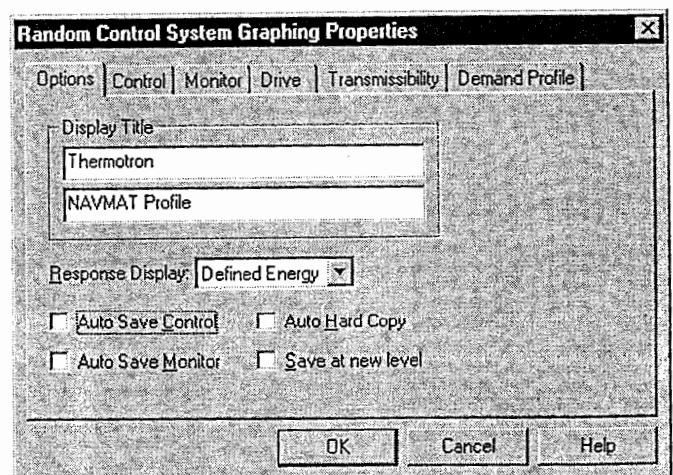

Figure 2-7. Sample Graphing Properties Options Display.
- a. Select Properties from the Graph menu. The Properties window opens. See Figure 2-7.